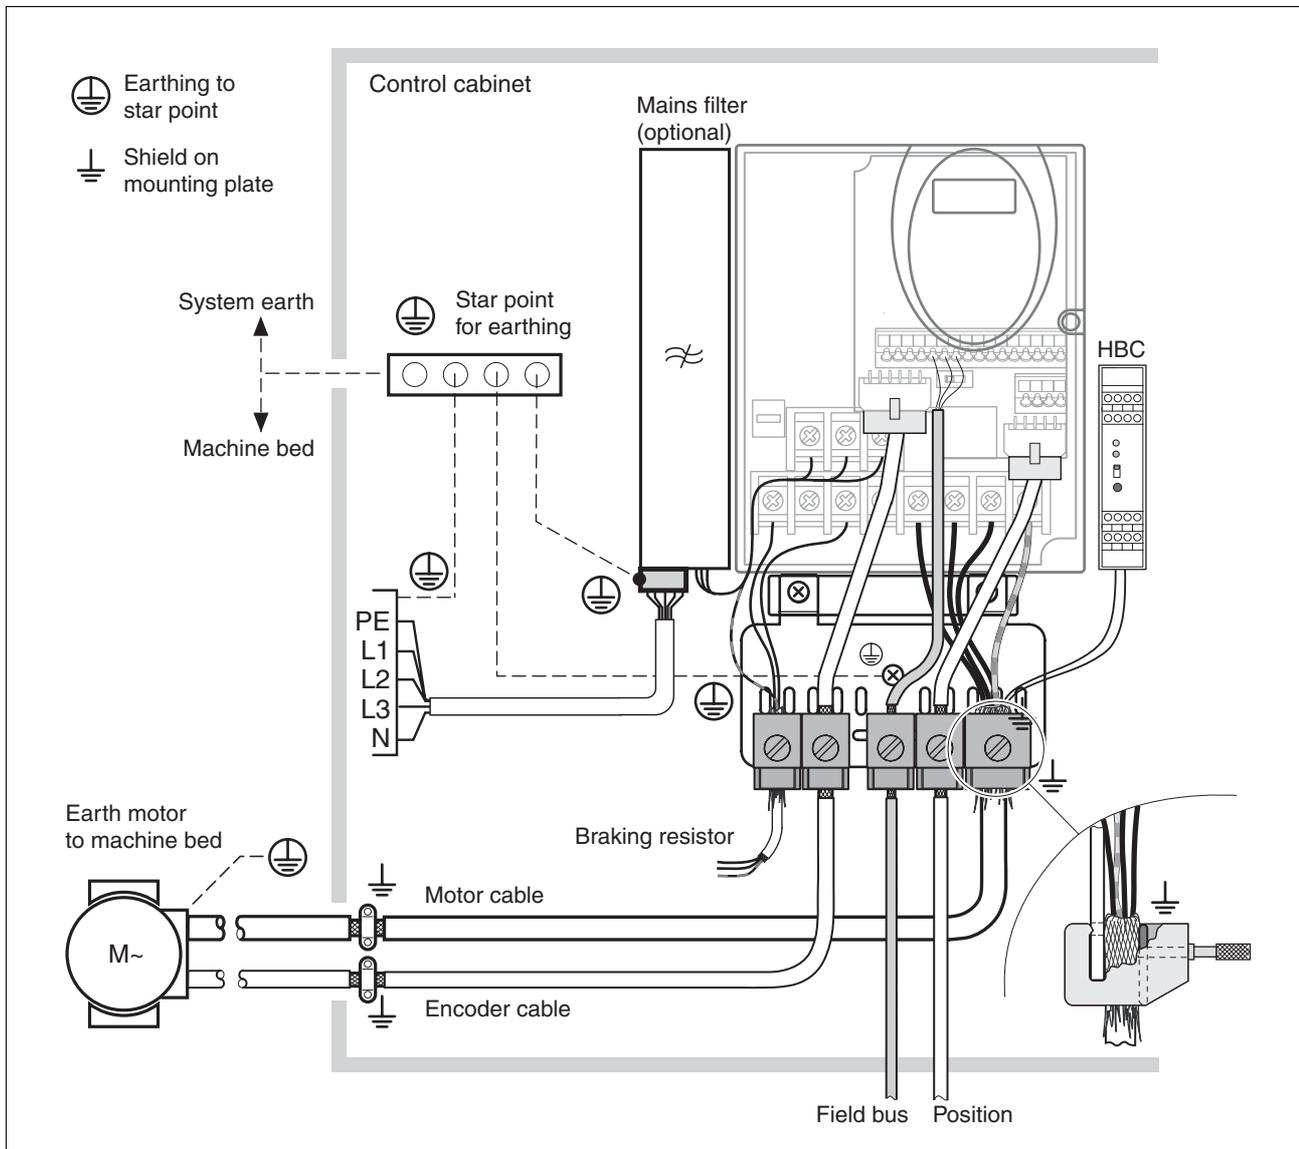

Figure 6.1 EMC measures¹
- ▶ Attach the EMC plate at the bottom of the device, see also Figure 6.1, or use alternative attaching elements (comb bars, shield clamps, busbars).